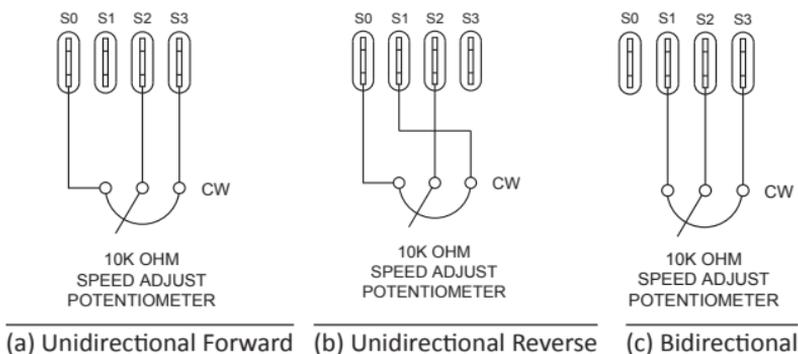

Figure 7. Speed Adjust Potentiometer Connections
For unidirectional operation in the forward direction, connect the speed adjust potentiometer as shown in Figure 7(a).
For unidirectional operation in the reverse direction, connect the speed adjust potentiometer as shown in Figure 7(b).
For bidirectional operation, connect the speed adjust potentiometer as shown in Figure 7(c). The motor does not operate when the potentiometer is in the center position. Turning the potentiometer clockwise (CW) from the center position causes the motor to rotate in the forward direction, while turning the potentiometer counterclockwise (CCW) causes rotation in the reverse direction.